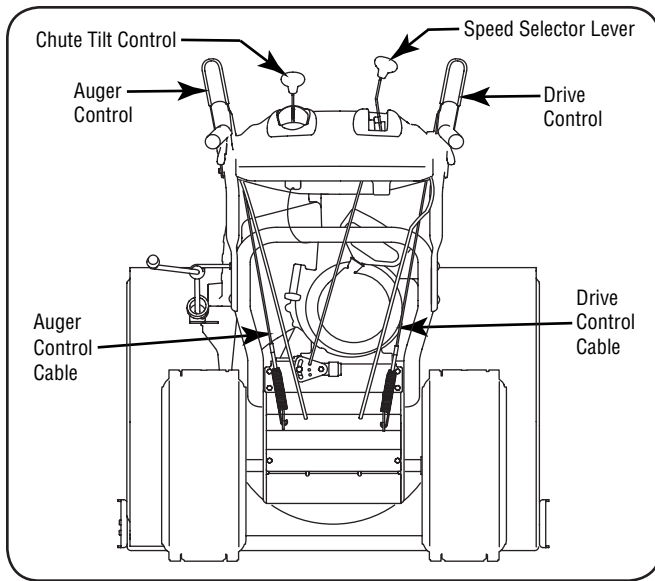

Figure 3-9
1. When the auger control is released and in the disengaged "up" position, the cable should have very little slack. It should NOT be tight. Refer to Figure 3-9.
4. Allow the auger to remain engaged for approximately ten (10) seconds before releasing the auger control. Repeat this several times.
1. With the engine turned off, move the speed selector lever into sixth (6) position. Refer to Figure 3-9.
1. From beneath the handle, pull downward on the appropriate cable and unhook the spring found on the end of the cable from its respective actuator bracket. Refer to Figures 3-9 and 3-10.